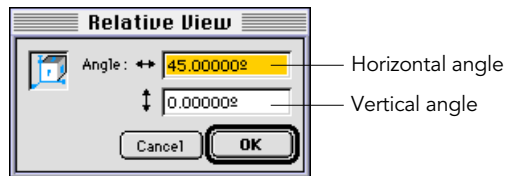

Fig. 289 Defining a relative view numerically
2. Type the relative view's horizontal and vertical angles in the text boxes (fig. 289), and then Click OK.